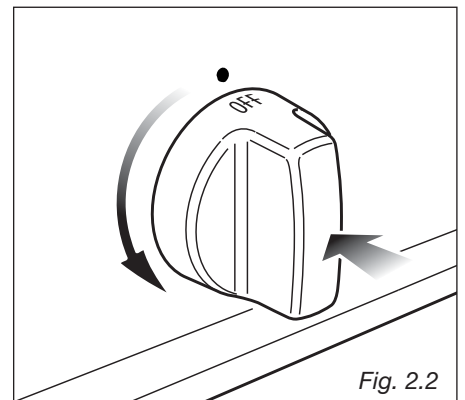

Fig. 2.2
- 1 – Turn the knob in an anti-clockwise direction up to the **★ HI** position (maximum rate), push in and hold the knob until the flame has been lit (fig. 2.2).